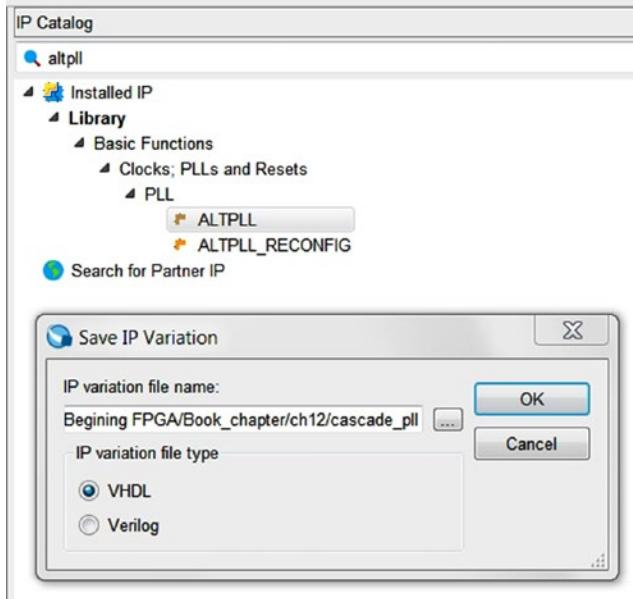

Figure 12-23. IP Catalog—Altera PLL IP for cascade
Step 1: In the IP Catalog, search for **altpll**, select **ALTPPLL**, and **double-click** it as shown in Figure 12-23. A new IP variation window pops up. Enter **cascade_pll** at the end of the IP variation file name. Select **VHDL**. Click **OK**